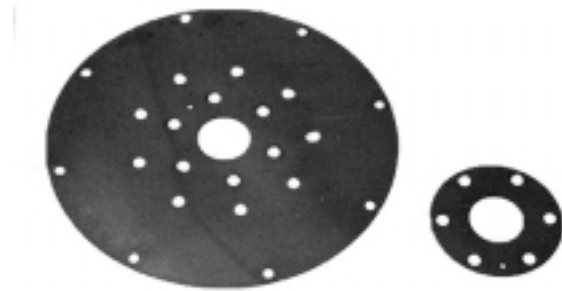

Figure 6-46
1. Inspect the drive discs for distorted or bent edges. (Figure 6-46) Inspect for worn mounting holes. Replace all defective discs as necessary.